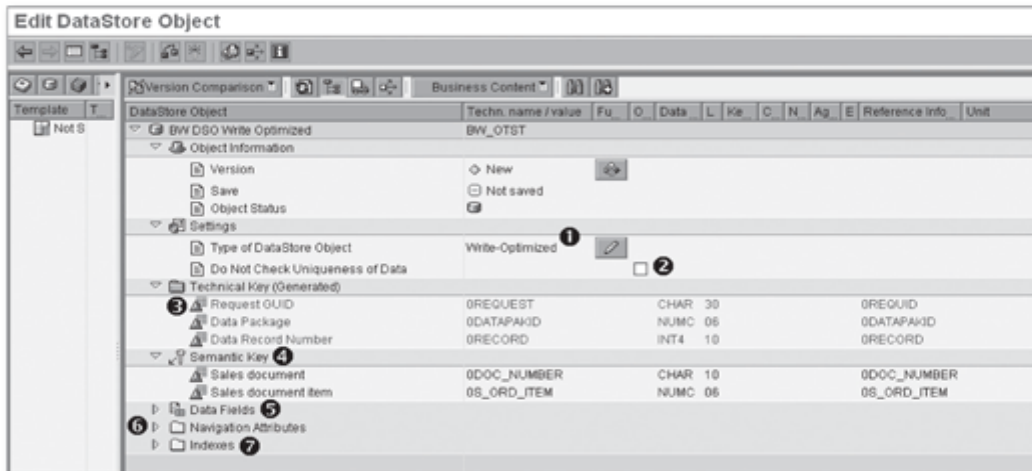

Figure 4.16 Creating Write-Optimized DSOs
Compared to standard DSOs, the settings required while creating a write-optimized DSO are much less stringent (Figure 4.16). To access this screen, select DSO from DWW. From the context menu, select change.
The first thing to do when creating a write-optimized DSO is to change the Type of DataStore Object to Write-Optimized, as shown in ❶ of Figure 4.16. The technical key is then generated by the system, which consists of the following fields: Request GUID, Data Package, and Data Record Number (❸).
As shown in Figure 4.16, you need to maintain the semantic key (❹), data fields (❺), navigation attributes (❻), and index (❼). The semantic key is the same as the key fields of the standard DSO, as are the rest of the settings.